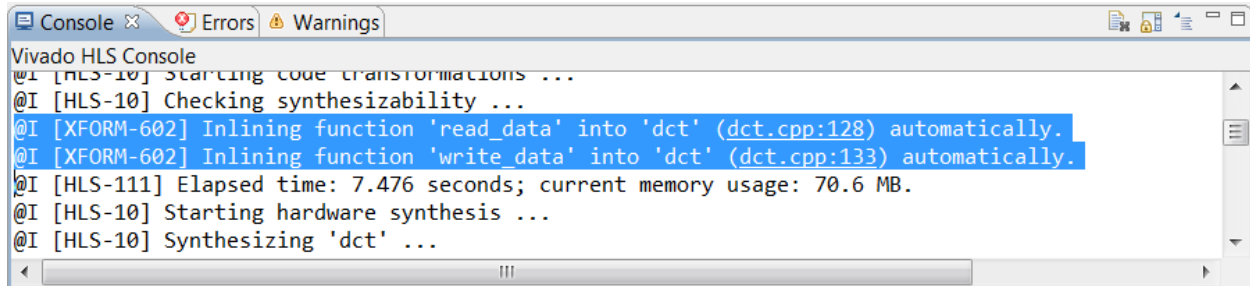

Figure 111: Automatic Inlining for Functions
- **Figure 111** shows that, during synthesis, these blocks were automatically inlined (the hierarchy was removed).